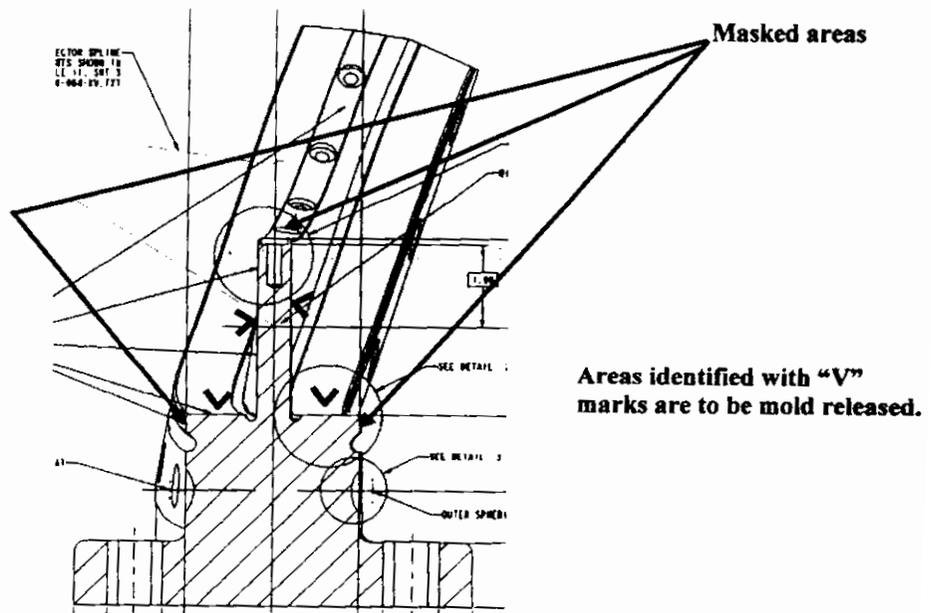

Figure 9- Mold Release and Masked Surfaces
Mask the surfaces identified in Figure 9 with masking tape. Apply (3) coats of mold release ("Miller-Stephenson"-PTFE MS122DF) to the winding surfaces. Allow each coat to dry to the touch prior to applying the next coat. Figure 9- Mold Release and Masked Surfaces identifies the surfaces to be coated and masked.